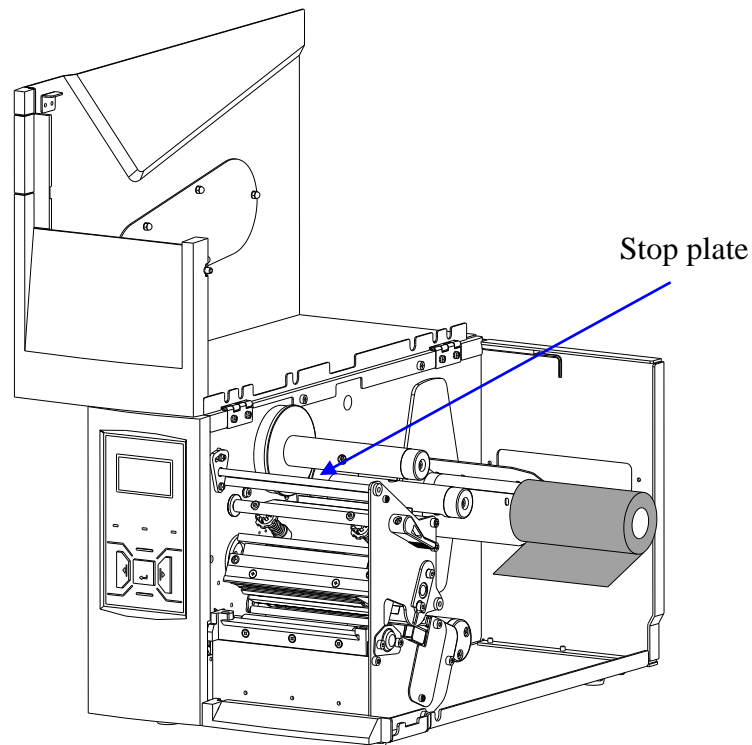

Figure 2-7 Load Ribbon Roll
4. Place the ribbon roll on the Ribbon Supply Spindle, see Figure 2-7. Make sure that the ribbon roll is firmly pushed against the Stop Plate.